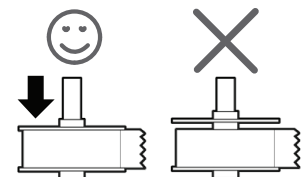

Figure 2
- The label spool guide must be pushed flush against the label roll, with no gap. See Figure 2.
- 5 Slide the spool guide onto the right side of the spool and press the guide tightly against the side of the label roll, **leaving no gap** between the roll and the spool. See Figure 2.